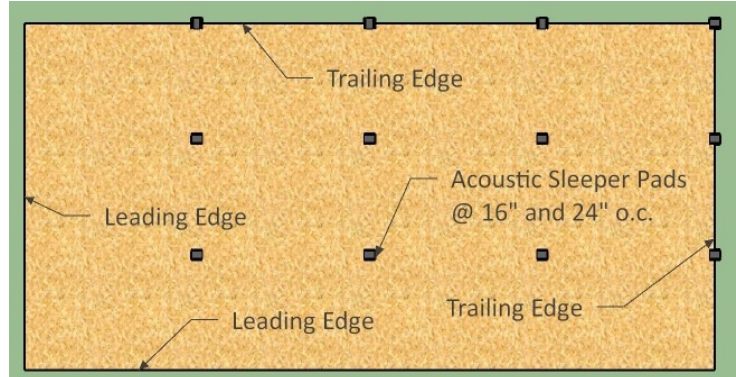

Figure 1: Typical Inverted Plan for lower panel on concrete and other decks
- Fig. 1: Typical inverted plan of lower panel for concrete, square-edged panels with pads 24" max. o.c. for strong axis, 16" max. o.c. for weak axis.